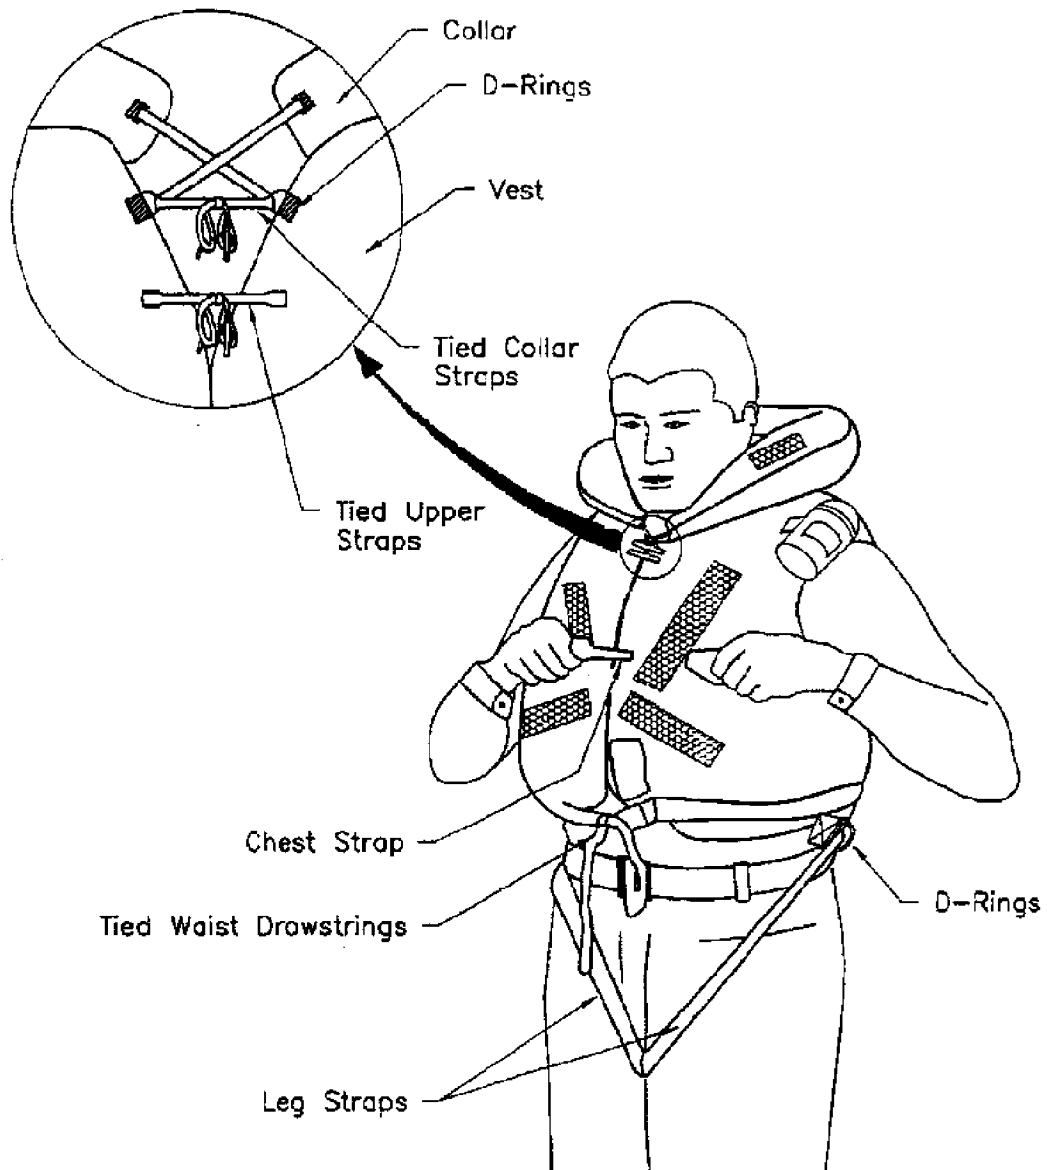

Figure 077-2-2. Securing Vest Type Life Preserver
4. Cross collar straps and pass them through the metal D-rings on the vest cover. When the life preserver is worn, the D-rings will be located near the throat. Pull the collar straps snugly through the D-rings, and secure them with a bow knot. This is illustrated in Figure 077-2-2.
5. Pull the upper front straps snugly and secure them with a bow knot, as shown in Figure 077-2-2. The upper front straps are located right below the D-rings. Do not pass these straps through the D-rings.
6. Pull the waist drawstrings tight and secure them with a bow knot, as shown in Figure 077-2-2.
8. Secure the chest strap, as shown in Figure 077-2-2. Ensure strap is not twisted and tighten strap.